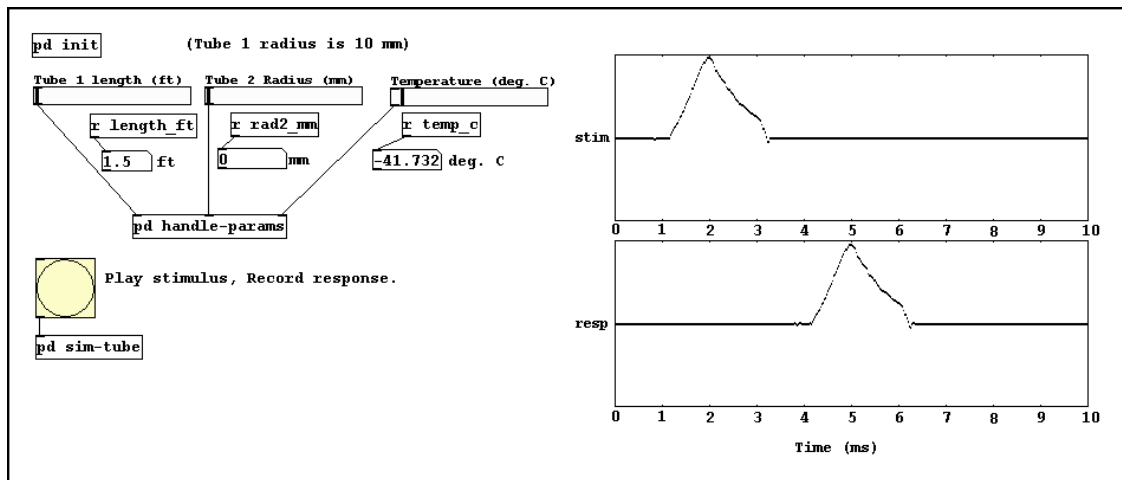

Figure 2: Screen capture showing the cascaded acoustic tube patch with variable first tube length, variable second tube radius, and variable air temperature.
1. Download the `pd` patch `vir_tube2.pd`,⁶ and open it in `pd`. Figure 2 shows a sample screen capture of the patch.
5. Click the large circular button on the patch. You should see a response similar to that of Figure 2. Does the reflected signal agree with your prediction?